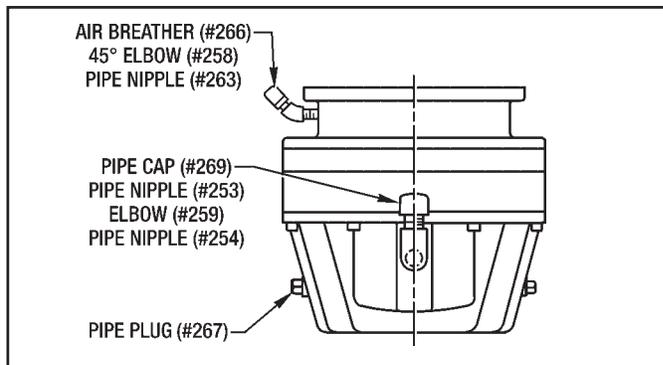

Figure 3.15
3. Remove Nipple (#77) and Pipe Cap (#67) from Housing (#8). Make sure this hole will be on the top side as the brake goes from horizontal to vertical. Rotate Housing (#8) to achieve this if necessary. (See Figure 3.15)
4. Install Nipple (#263) along with 45 degree Elbow (#258) and Breather (#266) into the hole in Housing (#8). (See Figure 3.15)
5. Remove Air Breather (#45) and Reducer Bushing (#76) from End Housing (#9). (See Figure 8.2) Install 1/2" N.P.T. Pipe Plug (#267) in the vacated breather hole (See Figure 3.15) **NOTE:** Reducer Bushing (#76), Air Breather (#45) and Sight Gauge (#46) are not used.